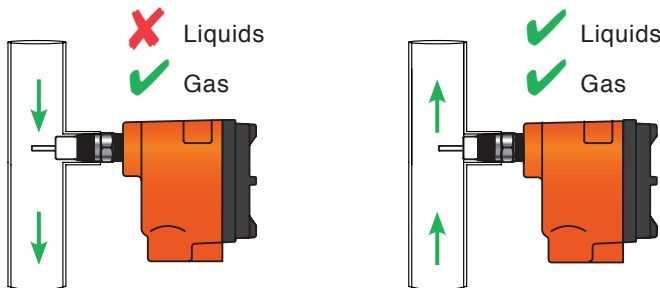

Figure 11 - Vertical Pipe, Flow Up & Down
- A “waterfall effect” may occur in vertical pipe with low flow rates. The process may become substantially aerated and will therefore cause the switch to interpret the aeration as a lower flow rate (see Figure 11).